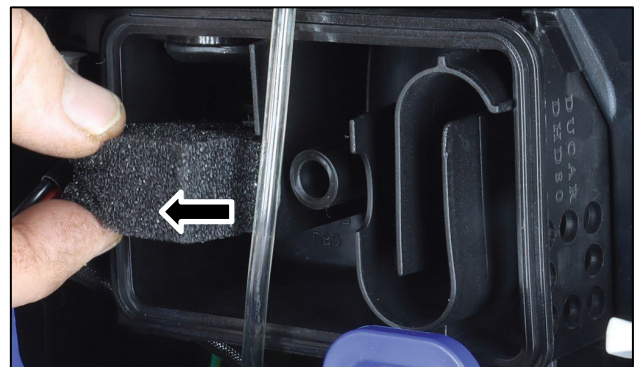

Figure 22 Remove the Air Filter Element
4. Remove the foam air filter element while taking care to note its shape and orientation (see Figure 22). The air filter element must be re-installed later in the same position.